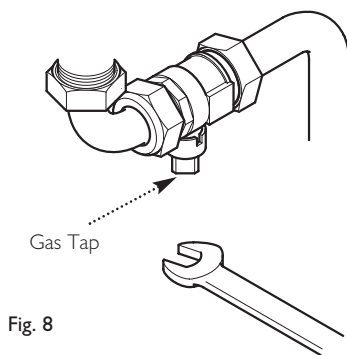

Fig. 8
Turn off the gas supply at the meter and call your gas supplier immediately. It is possible to isolate the boiler and at the isolating valve (Fig. 8).
1. Using a suitable open ended spanner, turn the square nut on the gas tap through 90° (1/4 turn) in a clockwise direction to isolate the gas supply at the boiler (Fig. 8).